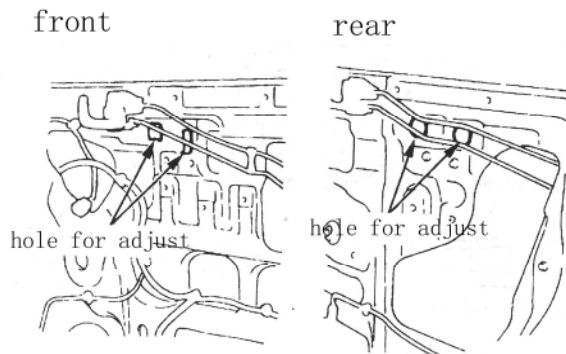

Fig. 18-38
- (1) Grease the sliding parts.
- (2) After taking glass in regulator, closing the glass by using regulator, adjust clearance between glass and slot, so that clearance is same, and fixed it in regulator. The hole for adjust see Fig.18-38.